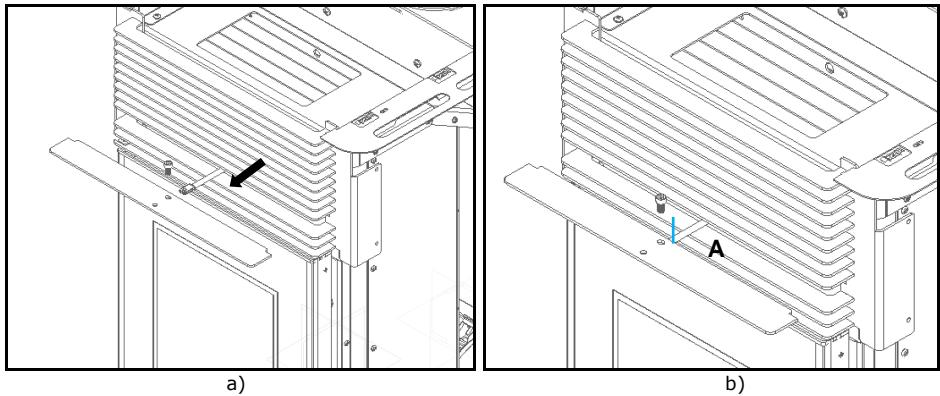

Figure 95 – Registry pad grip
- e) Repeat the process described in b) and c) in this manual for the other casing and secure the side parts using four screws **B** (DIN 7981 4,2x9,5) from the kit, two on each side, as shown in Figure 95.